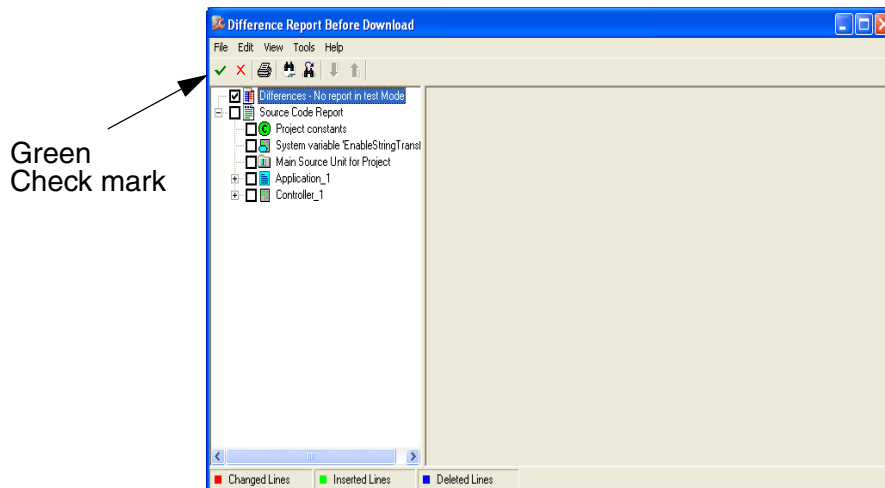

Figure 62. Difference Report window
5. Click the green check mark (see Figure 62) to continue.